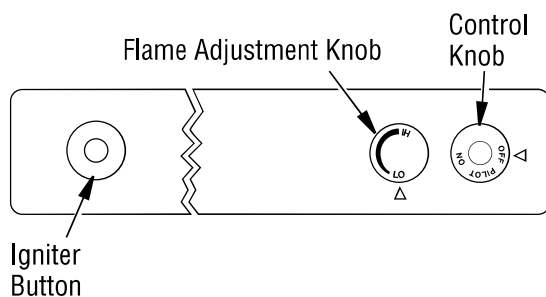

Figure 39 - Control Knob and Igniter Button Location (Shown as Supplied, No Control Options)
4. Press in and turn control knob clockwise  to the OFF position (see **Figure 39**).
5. Wait five (5) minutes to clear out any gas. Then smell for gas, including near the floor. If you smell gas, STOP! Follow "B" in the safety information, **Page 28**. If you don't smell gas, go to the next step.
6. Press in and turn control knob counterclockwise  to the PILOT position. Press in control knob for five (5) seconds (see **Figure 39**).